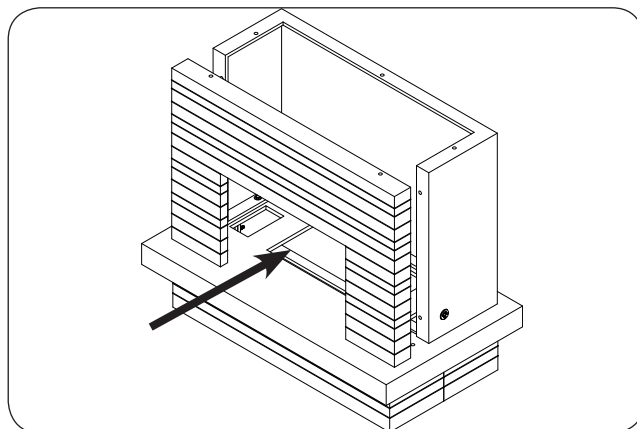

Fig. 15-1 Place fascia
1. Locate the fascia for the fireplace opening. Carefully mount the fascia to the body. See Fig. 15-1.